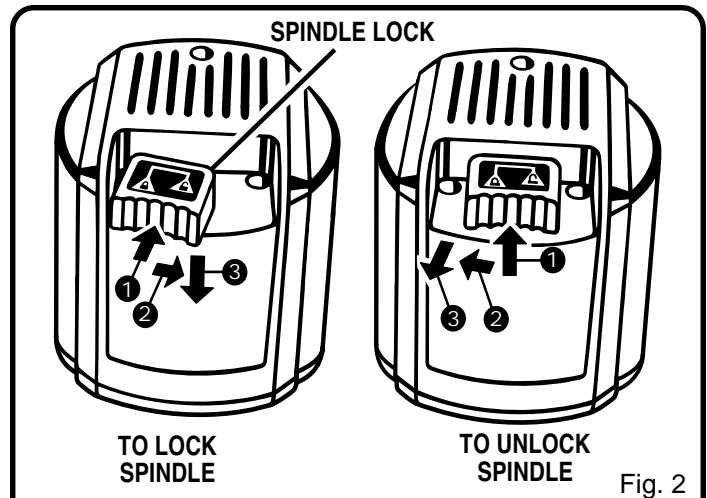
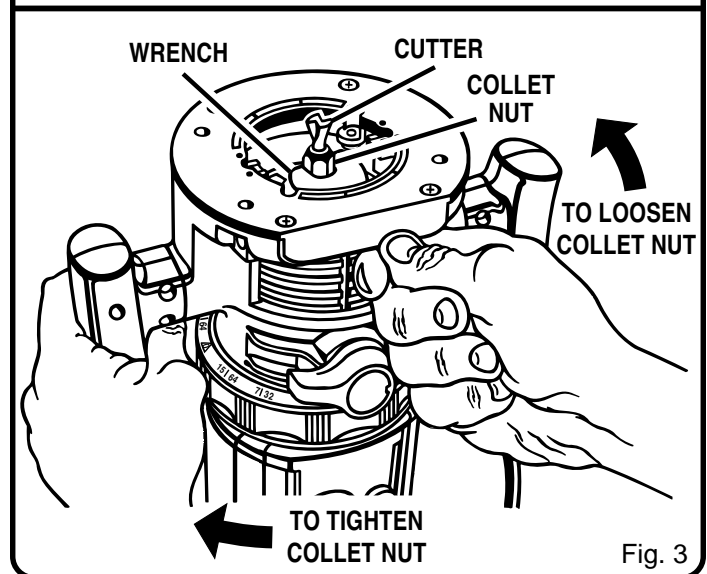

Fig. 2
Fig. 3
See Figures 2 and 3.
- A spindle lock is located on the top of the end cap. See Figure 2. To activate lock: (1) push the spindle lock in, (2) slide into lock position then, (3) release the spindle lock.
- Place your router upside down on a table, then turn the collet nut with a wrench until the lock mechanism interlocks. See Figure 3.
- Remove cutters by turning collet nut counterclockwise enough to allow cutter to slip easily from collet. See Figure 3. The collet is machined to precision tolerances to fit cutters with 1/4 in. (6 mm) diameter shank size.
- Tighten the collet nut securely by turning clockwise with the wrench provided. See Figure 3. Put spindle lock back in unlock position. Otherwise, the interlocking mechanism of the spindle lock will not let you turn your router on. To unlock spindle: (1) push spindle lock in, (2) slide into unlock position then, (3) release spindle lock. See Figure 2.